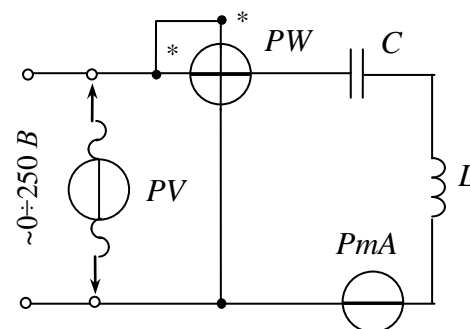

Fig. 4.11
1. Collect the circuit (fig. 4.11) and connect it to the clamps $<\sim>$ $<0 \div 250 \text{ V}>$. Place *LATR* switch in position $<\sim>$, $0 \div 250 \text{ V}$.
The name and purpose of the work. Homework – the calculation of the circuit. Schematic diagram of the investigated circuit (fig 4.11). Tables 4.2, 4.3. The substitutional schemes of coil and capacitor and calculations of their parameters. The vector diagrams. Conclusions.